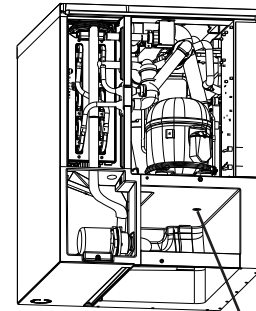

Fig. 7a Bin Control Lens
- b) As water begins to fill the water tank (1-min. fill), place an object 5" to 7" (127 to 178 mm) away from the UBC lens. See Fig. 7a.